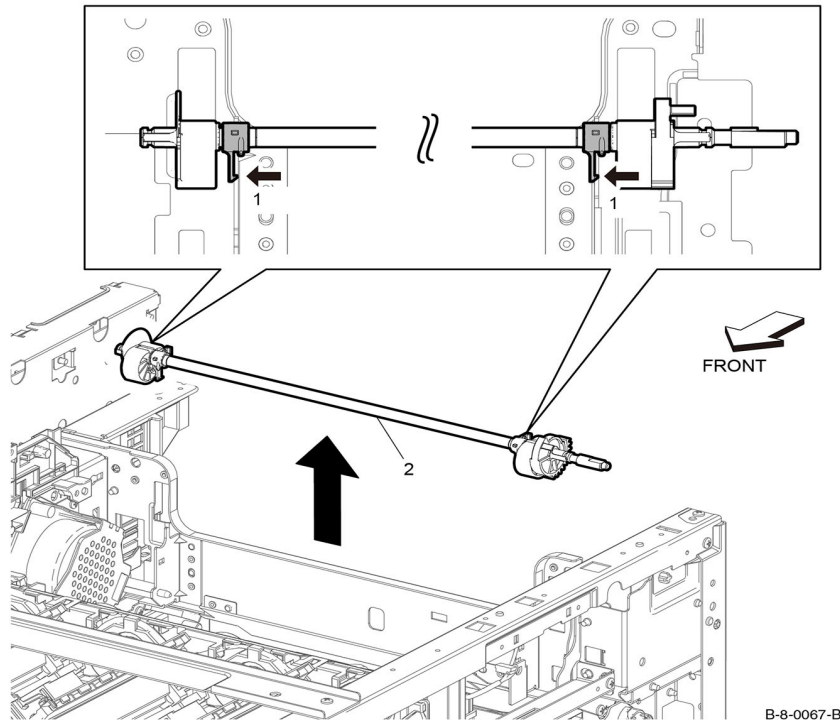

Figure 2 Nip retract shaft removal
24. Release the levers (1) to remove the shaft (2), Figure 2.